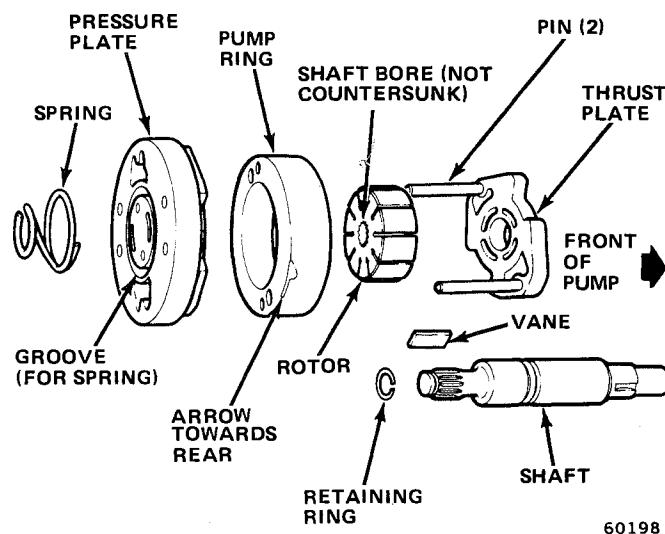

Fig. 2L-56 Pump Shaft Assembly Sequence
(5) Assemble pump shaft, thrust plate, and rotor. Insert splined end of shaft through thrust plate and rotor and install shaft snap ring (fig. 2L-56). Do not overspread snap ring. Open it only enough to install it.
(6) Install assembled thrust plate, rotor, and pump shaft in pump body bore.